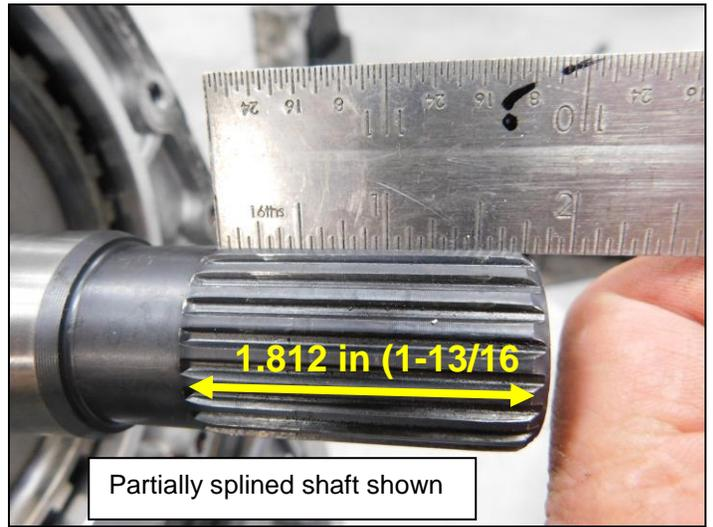

Figure 2
Measure the spline depth of your (OEM) **545RFE 4x4** output shaft. The majority of 545RFE 4x4 transmissions have a partially splined output shaft that measures 1-13/16" (1.812) deep (**Figure 2**).
- The NP241D input shaft requires a Minimum spline depth of 2.235" with these measurements. If your 545rfe Output shaft is fully splined to the step up on the output shaft and measures 2.235 or more you will not need to perform the following modifications to your NP241D Input shaft. If it is partially splined and measures 1.812 (1-13/16) as shown Fig.2, you will have to perform the outlined modification to the NP241D input shaft and remove .500in.